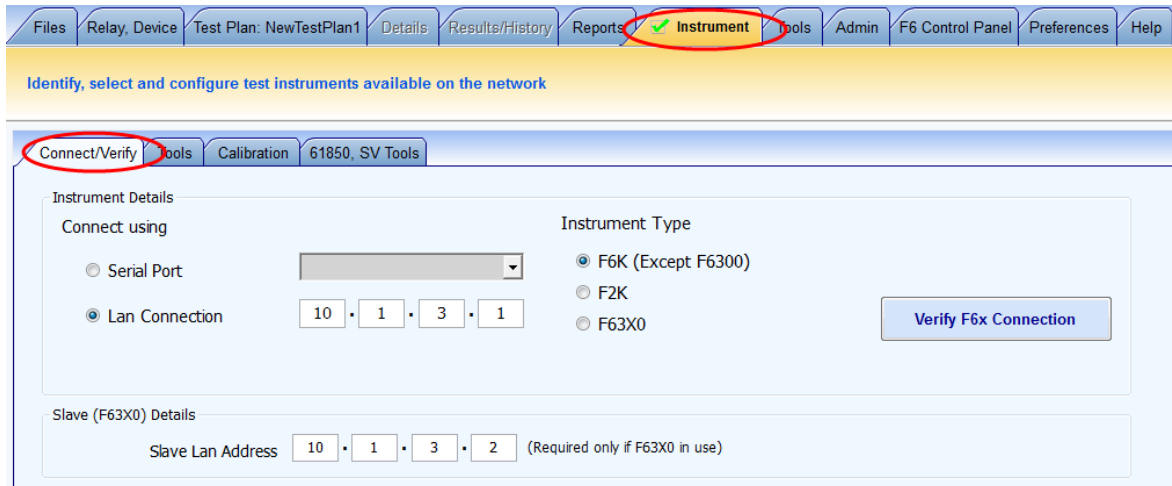

Figure 8. Reconnect to the F6150 instrument
30) Navigate to Instrument > Connect, Verify (format is “top tab > bottom tab;” see Figure 8)